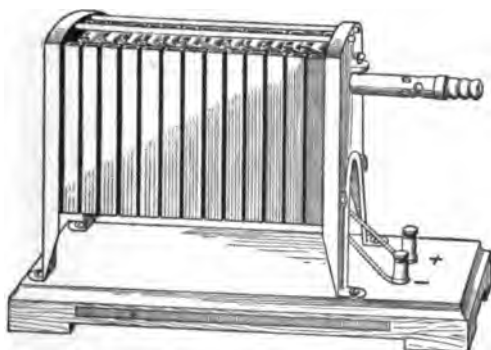

FIG. 122.—A thermo-electric generator.
**140. The Effects of Heat.**—There are five important changes produced by heat: (a) change of *size*, (b) change of *temperature*, (c) change of *state*, as the melting of ice or evaporating of water, (d) *chemical* change, as the charring of sugar when it is overheated, and (e) *electrical* change. This is illustrated by the production of an electric current, by the heating of the junction of two different metals. A thermo-electric generator (see Fig. 122) has been constructed upon this principle and works successfully.